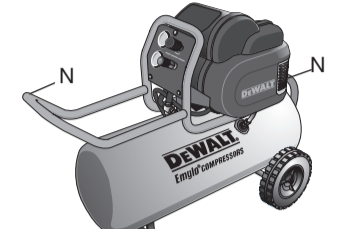

FIG. 4
**FREE WARNING LABEL REPLACEMENT (Fig. 4):** If your warning labels become illegible or are missing, call 1-800-4-DeWALT (1-800-433-9258) for a free replacement.